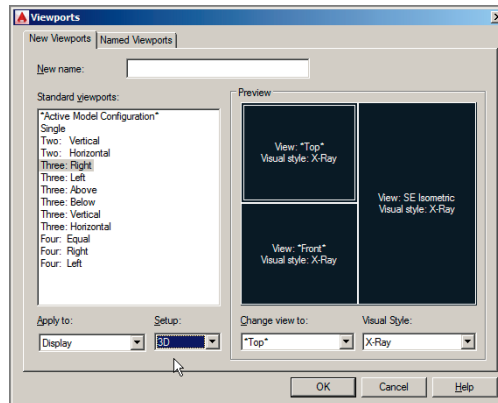

FIGURE 16.8 Configuring viewports
1. Type `VPORTS`, and press Enter. In the Viewports dialog box that appears, select `Three: Right` in the Standard Viewports list. Open the Setup drop-down menu, and select `3D` (see Figure 16.8). Click OK.